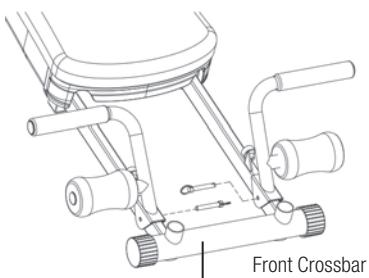

Fig. 5
3. Insert the 2 Short Hitch Pins through the holes on the Wing Attachment Brackets and the hole on the Rails, as shown in Fig. 5.